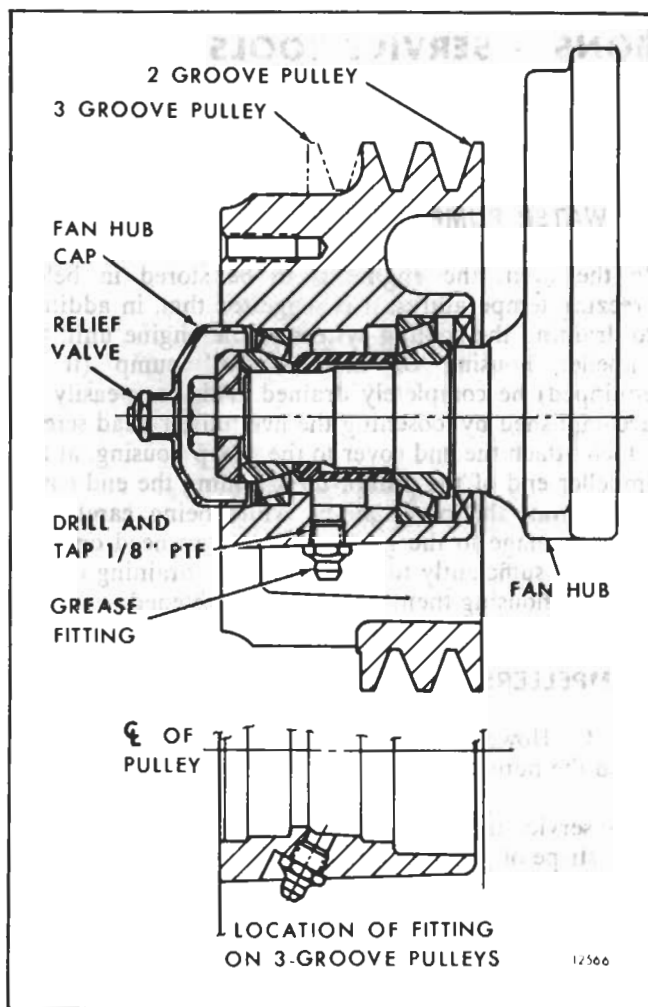

Fig. 1 - Location of Fan Hub Grease Fitting and Relief Valve
2. Drill and tap the fan hub, at the location shown in Fig. 1, to accept a 1/8" PTF x 11/16" threaded lubricator fitting. Clean the hub to remove any metal chips.
4. Install a new fan hub cap which is threaded for a relief valve (Fig. 1).